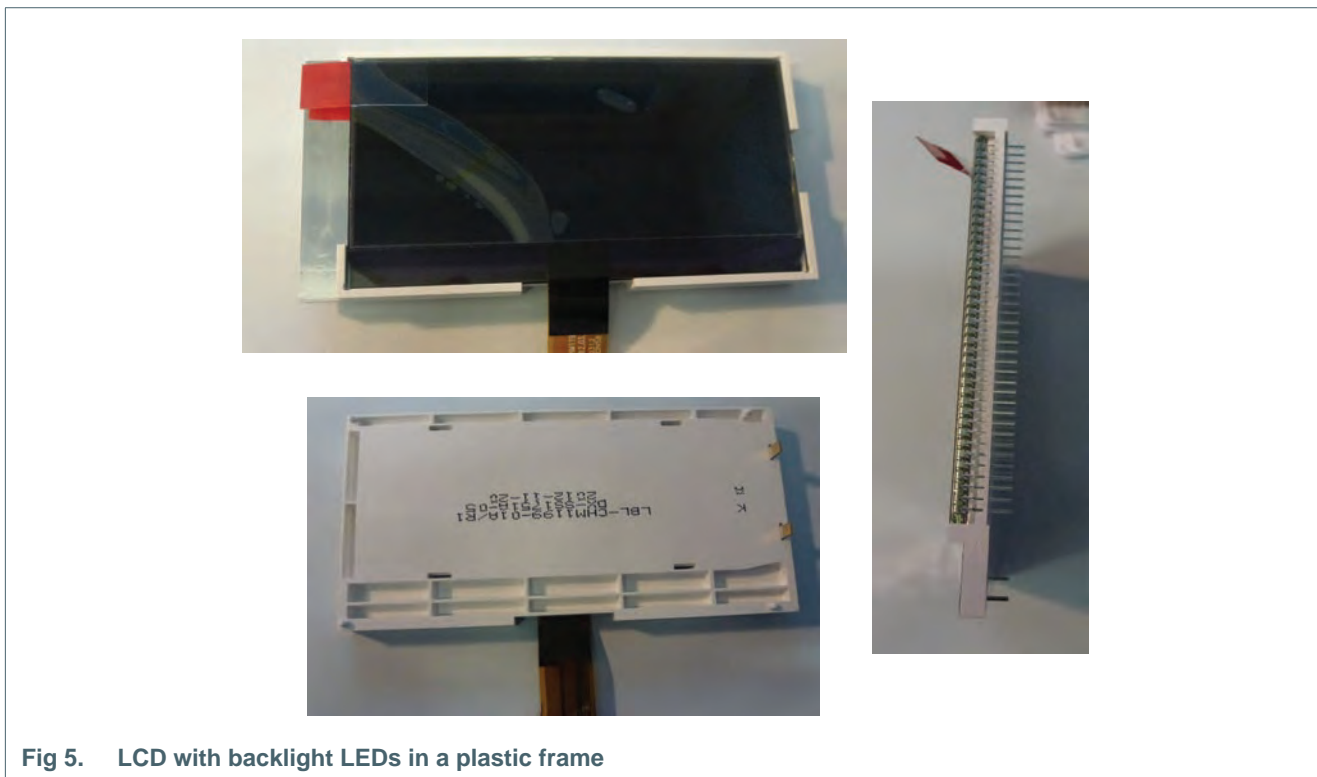

Fig 5. LCD with backlight LEDs in a plastic frame
The LEDs could be placed in a row at one or more edges of the screen or could be placed in an array covering a large area of the display. A light diffuser is typically used to spread the light evenly across the whole display. Figure 5 shows a display fitted together with the LED backlight in a plastic frame.
- Fig 5. LCD with backlight LEDs in a plastic frame5